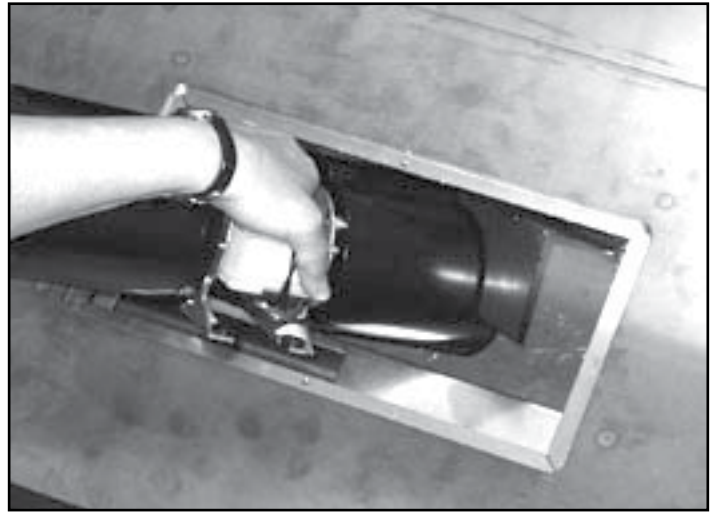

Figure 4.10 Installing Fans
4. Before installing the fan, make sure the grommets are tightly in place. Insert the right fan and place over the 2 locating pins. Repeat for other fan. Figure 4.10